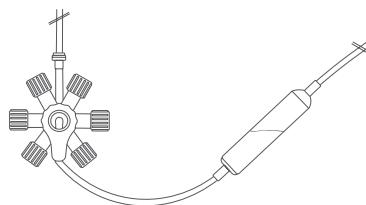

Fig 1. Priming of the drip chamber
8. Hold the Drip chamber (8) tilted upside down and position it at the same level as the RondelO, open the Roller clamp (9) of the IV-set and fill the Drip chamber as in (Fig. 1.)